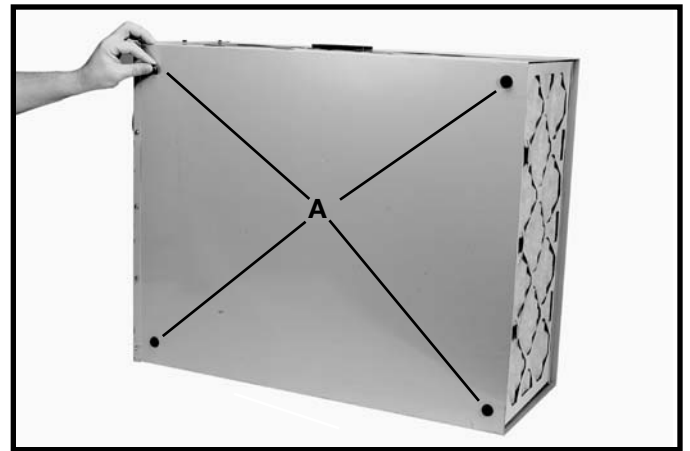

Fig. 3
1. Locate four (4) self-adhesive rubber feet (A) Fig. 3 supplied with the unit. Carefully place the air cleaner on a firm supporting surface with access to the bottom of the cabinet (Fig. 3). Apply a self-adhesive rubber foot (A) Fig. 3 to the bottom at each corner of the air cleaner cabinet. The rubber feet will help eliminate vibration and will prevent the possibility of the air cleaner “walking” across the work or floor surface.